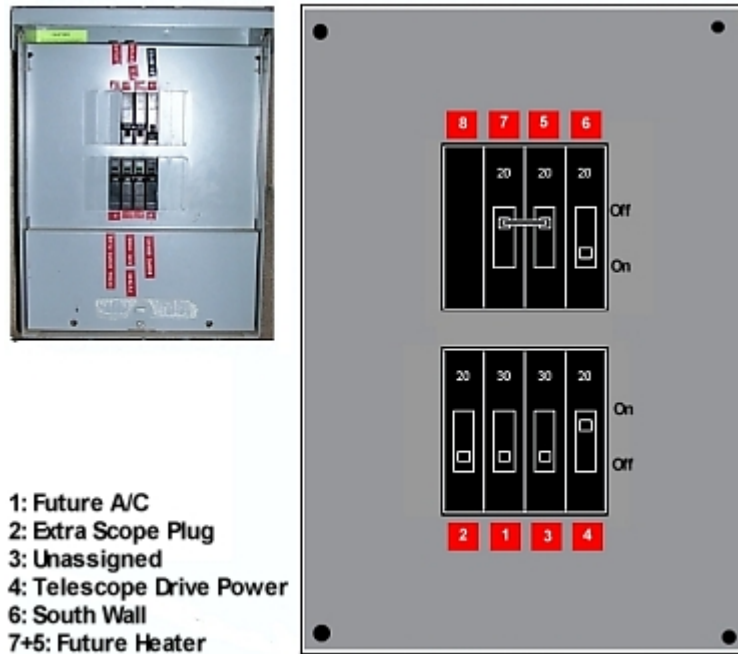

FIGURE 1
2. At the electrical panel *inside* the observing room (see Figure 1, below), the top line of breakers is numbered (from left to right) 8 (“reserved for future” breaker), 7, 5 and 6; of these, No. 6 should be left on all the time, and the others are generally off. The bottom line of breakers is numbered 2, 1, 3 and 4; No. 2 should be left on all the time, No. 7 and 5 should be off all the time, and No. 4 (the right-most breaker) is used to control power to the Kuhn telescope. Breaker 3 controls the subfloor fan, which is *not* used because of concerns about the dust it stirs up and the potential for spreading Hanta Virus. *Please note that “on” is the **down** position for the top row of breakers, and “on” is the **up** position for the bottom row of breakers.*